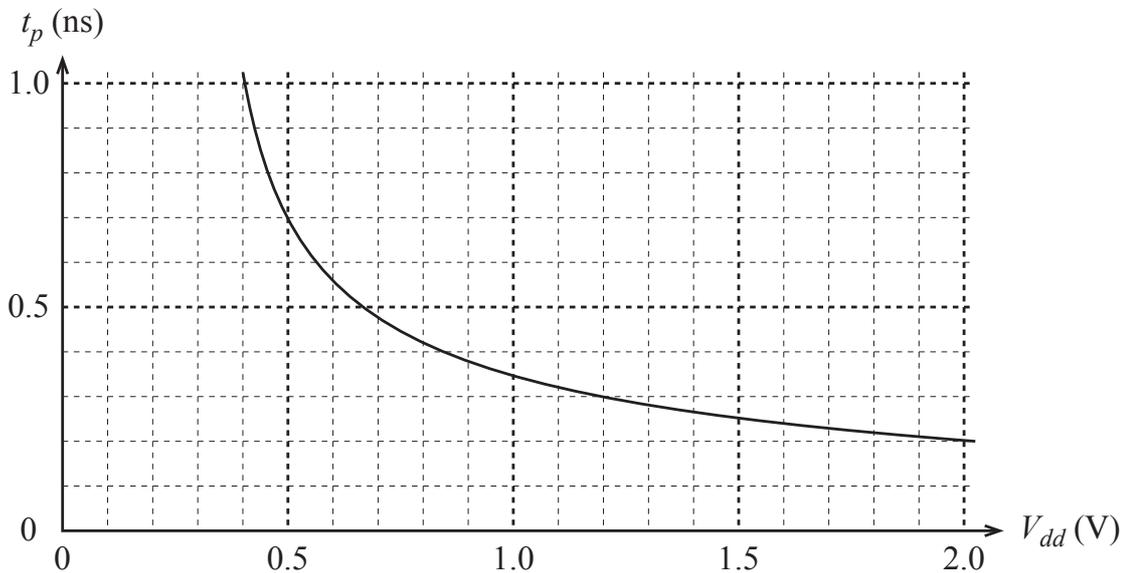

Figure 1. $t_p(V_{dd})$ of an FA.
In Figure 1 the propagation delay of a full adder is plotted as a function of supply voltage. What is the lowest supply voltage that can be used for a 4-bit Ripple Carry Adder (RCA) that should have a delay of at most 2 ns?
- How much relative power can be saved if we scale the supply voltage so that the Carry Select Adder obtains the same delay as the Ripple Carry Adder operating at a supply voltage of 2.0 V? Assume that the delay t_a of a full adder varies with supply voltage according to the graph shown in Figure 1, and the switched capacitances of an FA and a multiplexer are C_{FA} and $C_{MUX} = C_{FA}/3$, respectively.
Four FAs need to be cascaded in the 4-bit RCA. For a total delay of 2 ns, each FA can at most have a delay of 0.5 ns. Hence the minimum supply voltage that can be used for the FAs is approximately 0.7 V according to Figure 1.